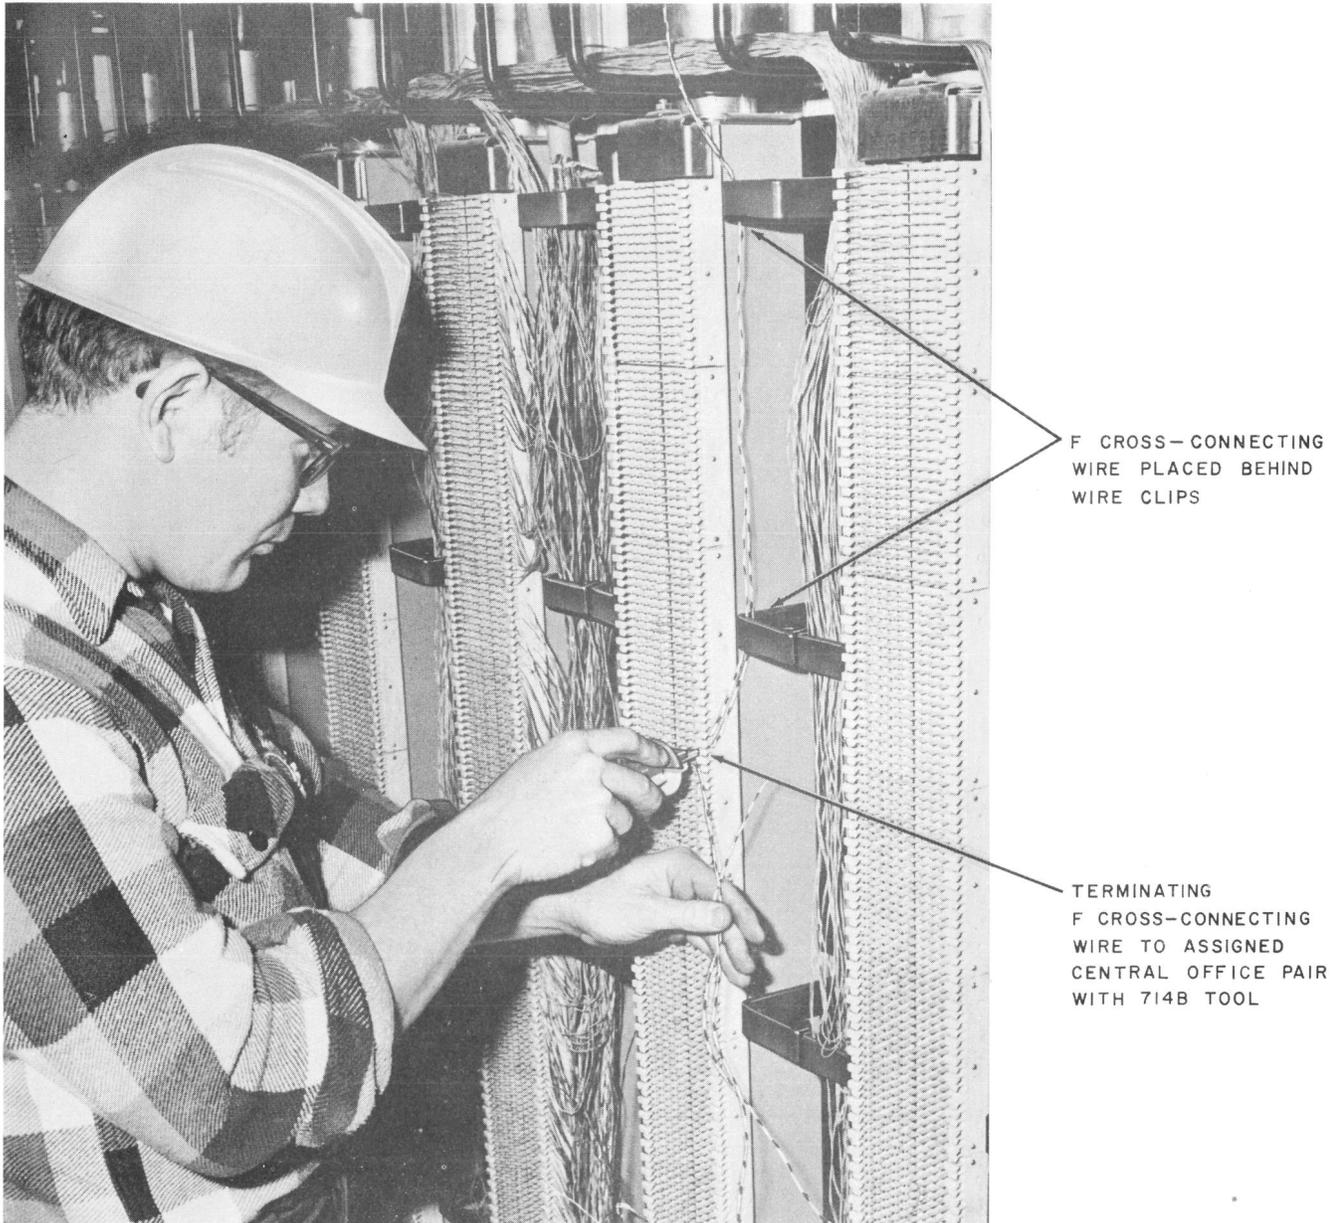

Fig. 4—Terminating F Cross-Connecting Wire To Assigned Central Office Pair
3.03 Using a 714B Tool terminate the F Cross-Connecting Wire to the assigned central office pair then: (Fig. 4)